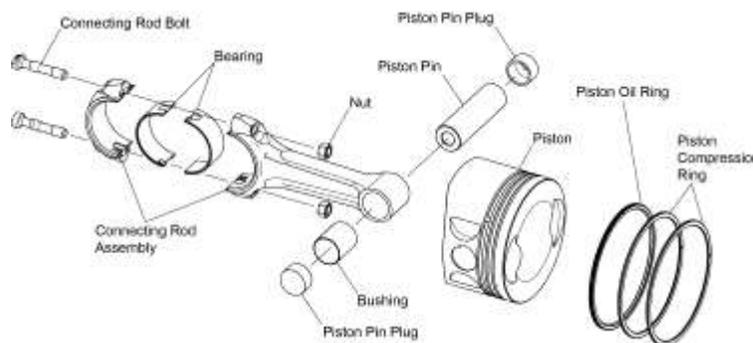

Figure 18
NOTICE: During removal of each piston pin (Figure 18), the piston will disconnect from the connecting rod.
- A. Support the piston and remove the two piston pin plugs (Figure 18) and piston pin from the piston.
- D. Start from the top down, use the Piston Ring Expander (P/N 64713) to remove the two top compression rings and the piston oil ring (Figure 18).